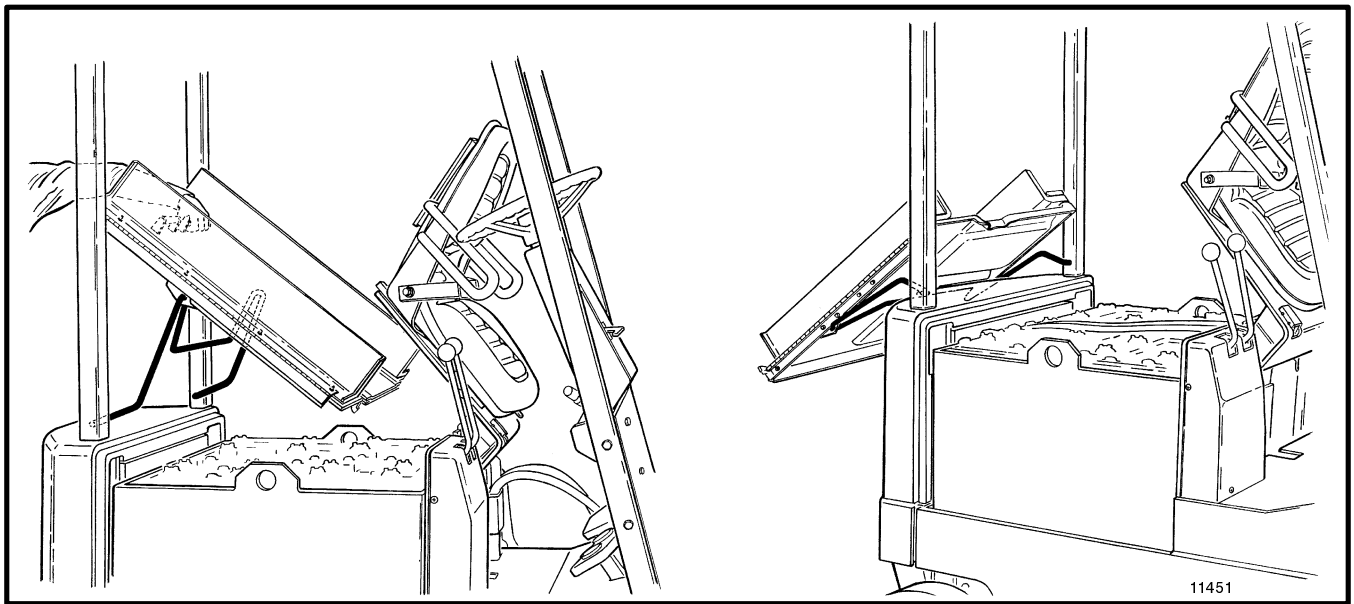

FIGURE 19. OPEN THE HOOD
2. If the lift truck has a hood, open the hood from over the battery. See FIGURE 19. If the battery is not a covered battery, put an insulating cover over the battery. If
2. If the lift truck has a hood, open the hood from over the battery (see FIGURE 19.). If the battery is not a covered battery, put an insulating cover over the battery. Lift trucks without hoods must have a battery cover. If installed, raise the battery retention bar and put it in the up position.